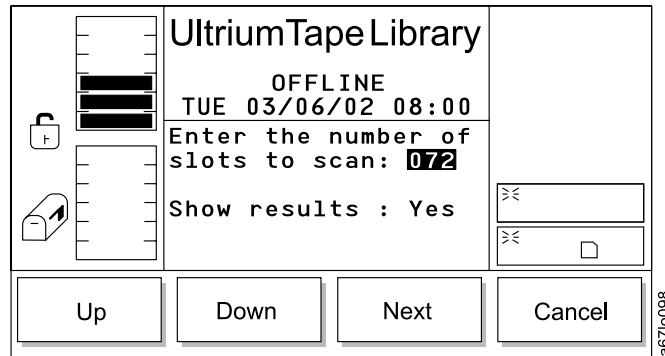

Figure 122. Select Slots Dialog
- If **OK** is selected, the fields are accepted and the Select Slots Dialog displays (see Figure 122 on page 113).
- If **Next** is selected, the next field in the list becomes the active field (see Figure 122).